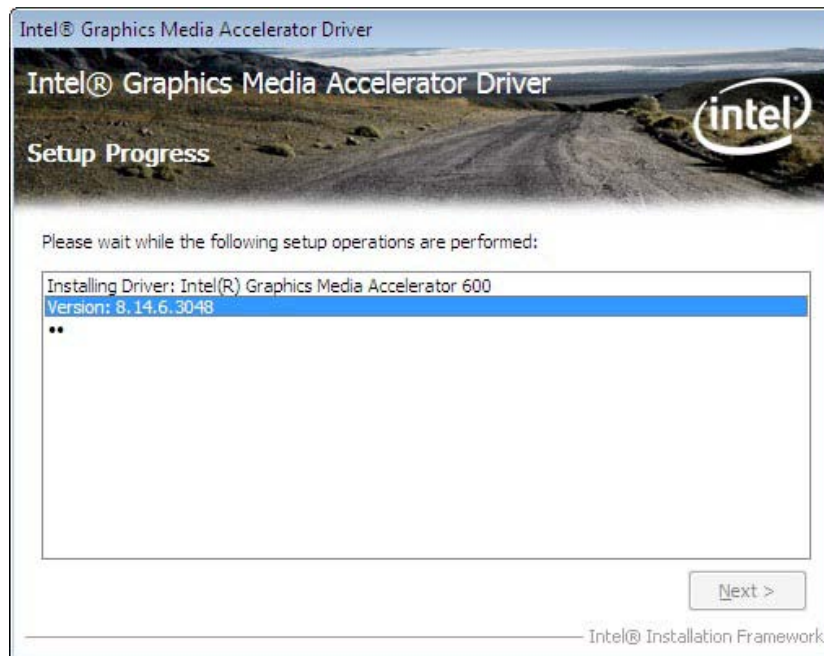

Figure 7-10: VGA Driver Setup Operations
Step 11: Setup Operations are performed as shown in **Figure 7-10**.